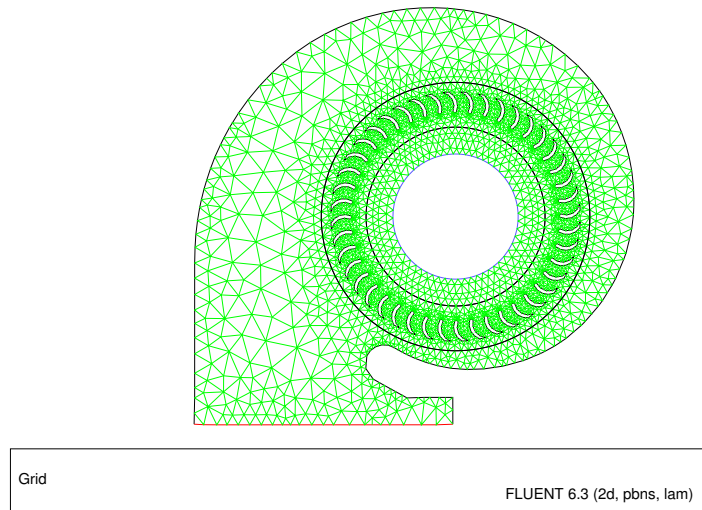

Figure 9.2: Mesh of the 2D Centrifugal Blower
4. Display the mesh (Figure 9.2).